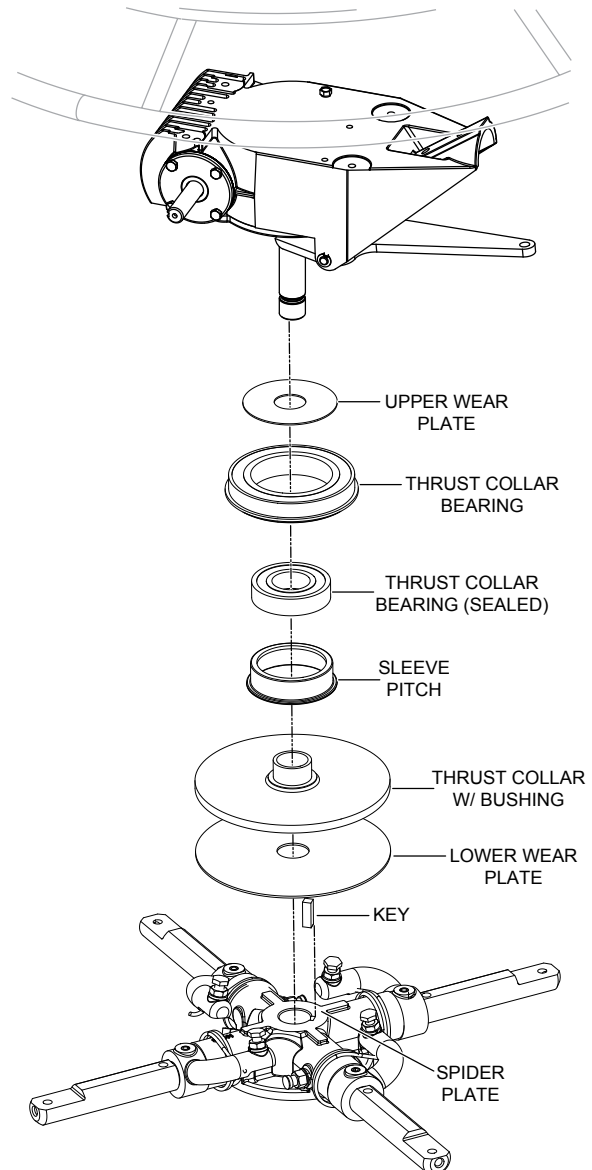

**Figure 55. Incorrect Spider Plate Alignment**
6. Figure 55 illustrates, “incorrect alignment”, worn spider bushings or bent trowel arms.